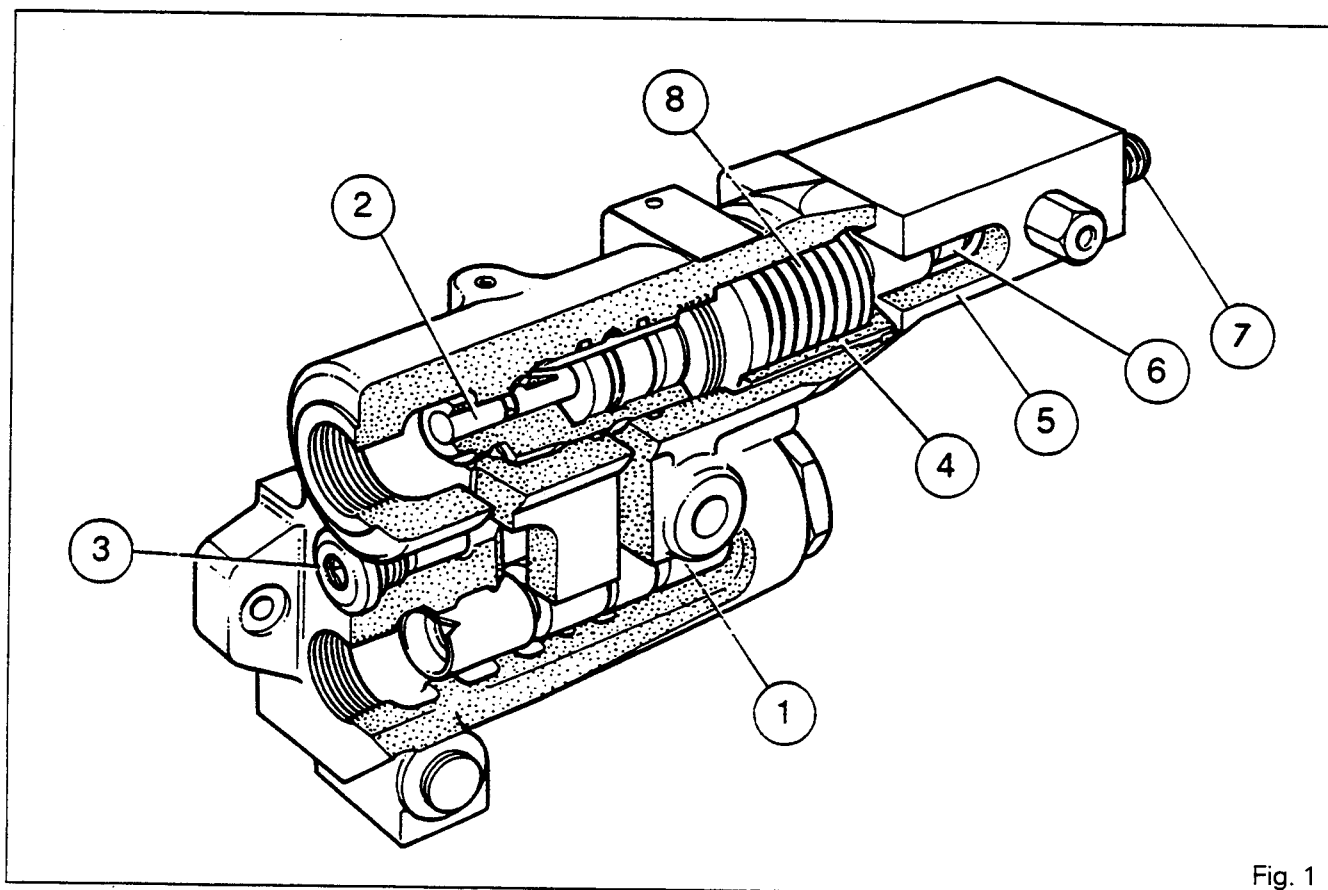

Fig. 1
Description of the trailer braking valve (Fig. 1)**Flow control valve (1)**